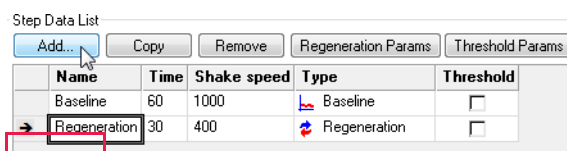

Figure 10-41: Add Button
- Click **Add** to display the Add Step Definition dialog box (Figure 10-41).